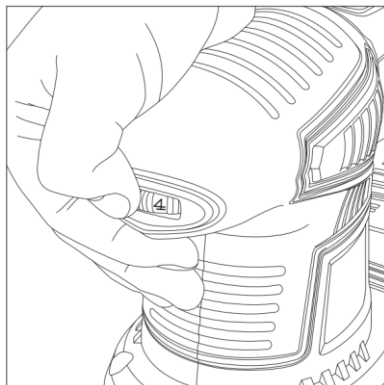

Figure 5
3. Variable speed dial (Figure 5)